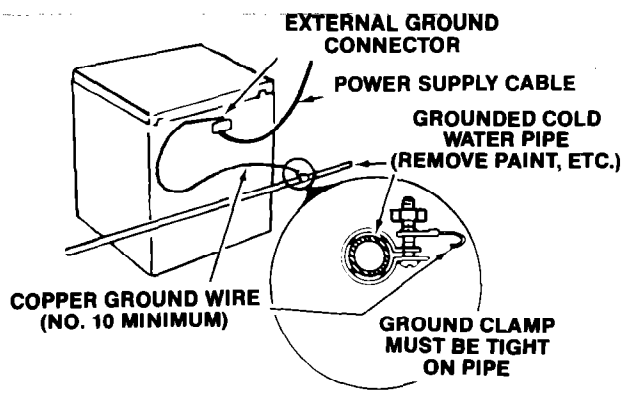

Figure 11
- c. Connect a separate copper ground wire (No. 10 minimum) to a grounded cold pipe* by means of a clamp and then to the frame of the appliance at the external ground connector. Use Part No. 685463 ground wire and clamp assembly. Do not ground to a gas supply pipe. Do not connect the power supply cord to electric power supply until appliance is permanently grounded. See Figure 11.
- h. Connect a separate copper ground wire (No. 10 minimum) to a grounded cold water pipe* by means of a clamp and then to the frame of the appliance at the external ground connector. Use Part No. 685463 ground wire and clamp assembly. Do not ground to a gas supply pipe. Do not connect the power supply cord to electric power supply until appliance is permanently grounded. See Figure 11.